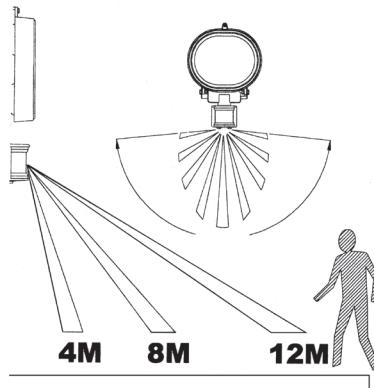

Fig. 1A
- The best height to mount the light is 1.8–2.5 m above the detection zone (Fig. 1A).